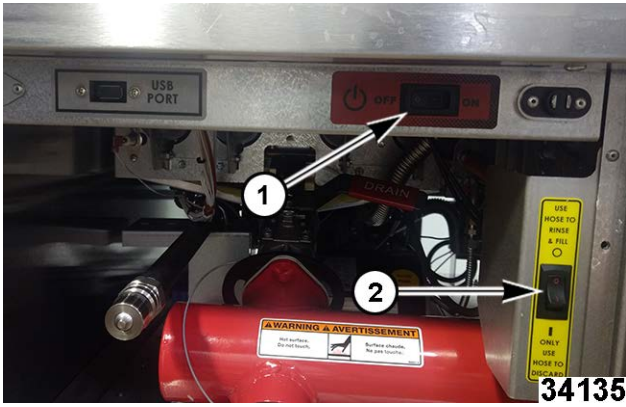

Fig. 28
1. Open door to locate power switch (1, Fig. 28 ) and discard hose switch (2, Fig. 28).